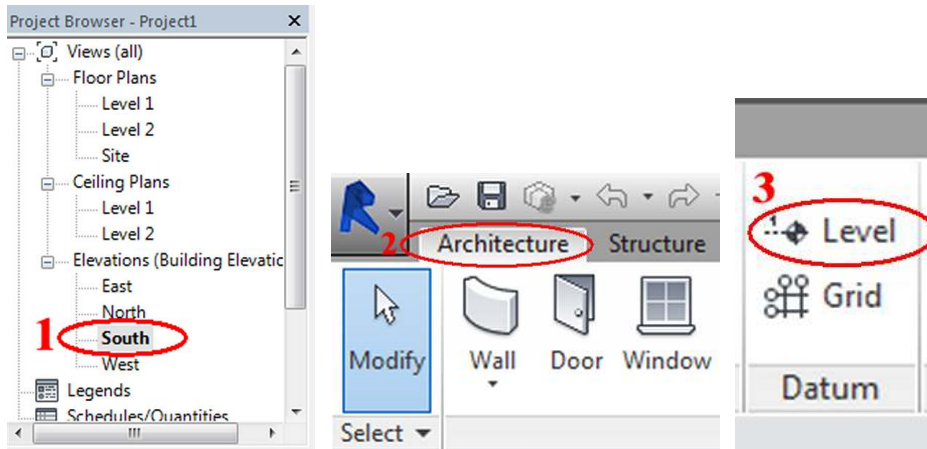

Fig. 1.10 – Level tool to draw new levels
1. In Project Browser, under Elevations, double-click South (Fig. 1.10). You will see that 01 Level and 02 Level are already present.